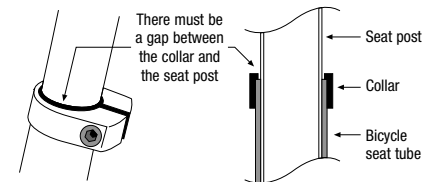

FIGURE 3
- Before tightening the seat tube collar, make sure that the upper lip of the collar does not touch the seat post (see Figure 3).